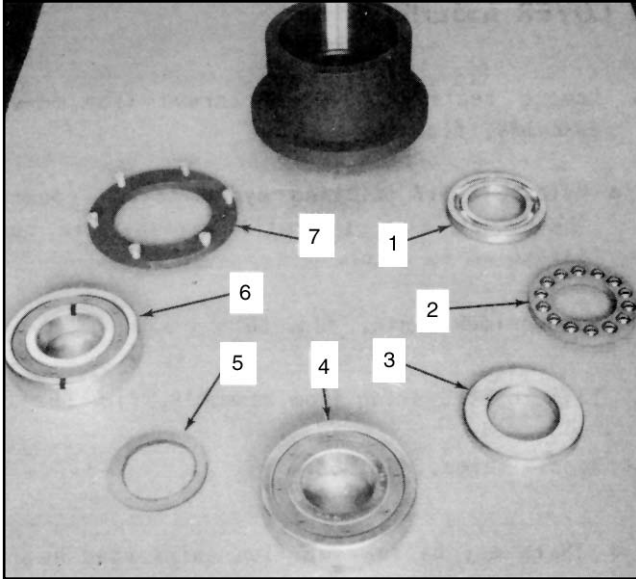

Figure 51
3. Figure 51 shows the complete disassembly of the gear plate assembly. The items are arranged in a counter-clockwise direction and numbered in order of reassembly
- When reassembling, replace all items as shown in Figure 51.